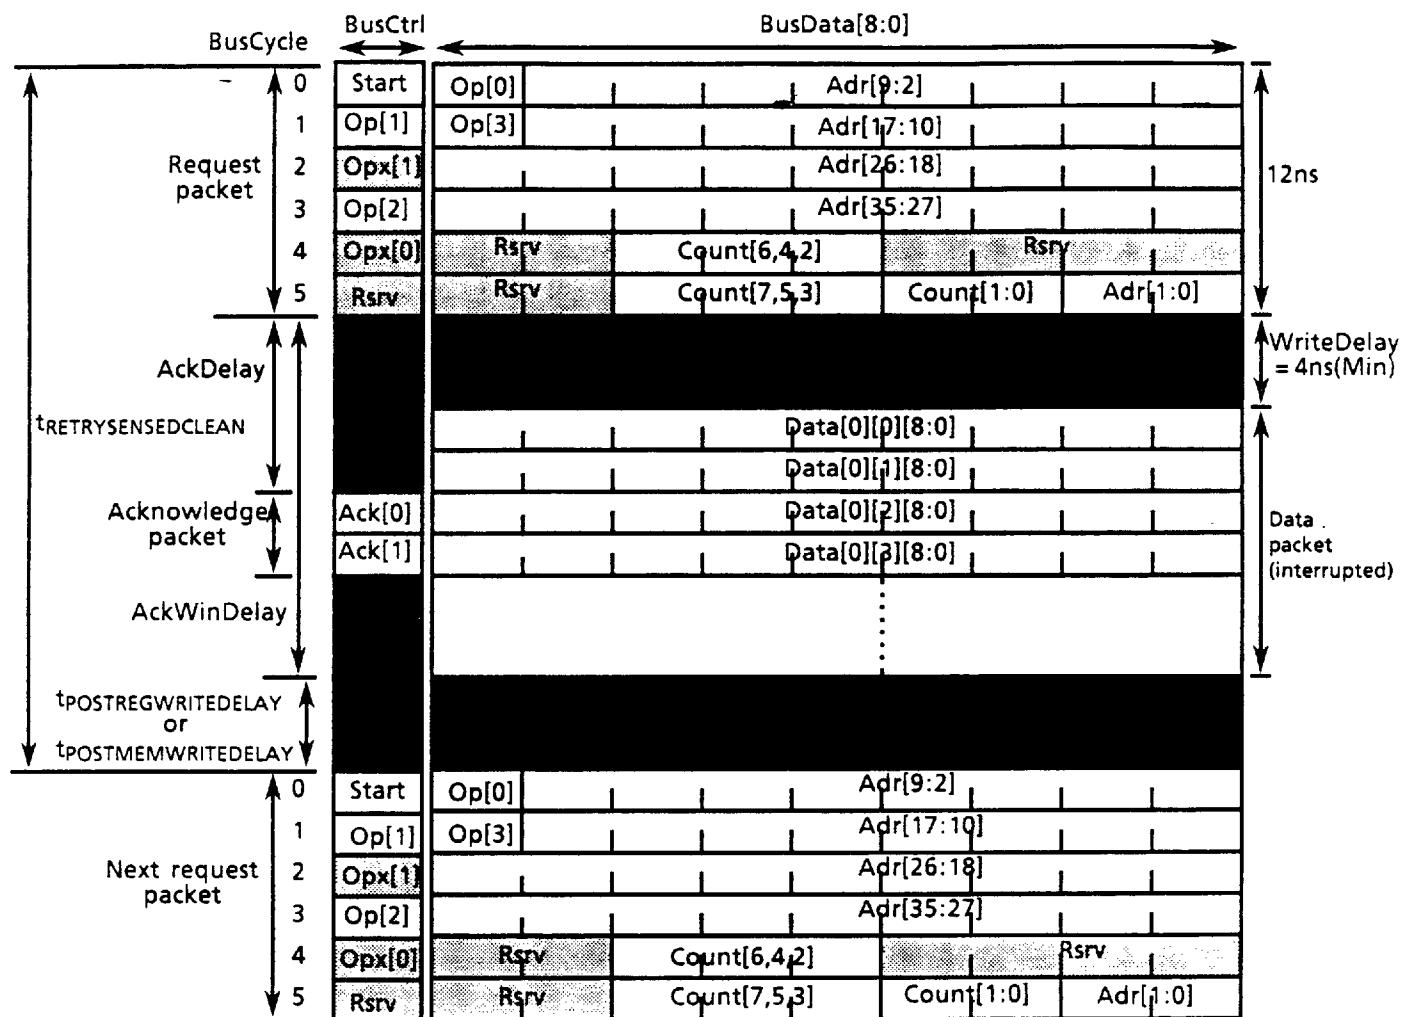

Figure 11. Write Operation for Memory or Register Address Space
## (2) Write Operations When Nack or Nonexistent is Returned (see Figure 11)